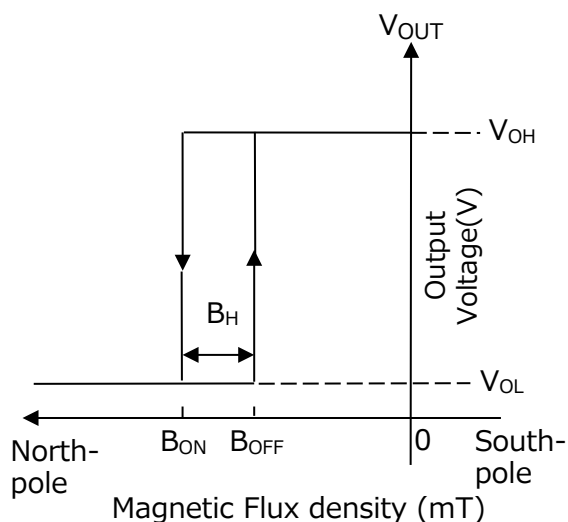

Fig.9 Magnetic operating characteristics
- ② North-pole detection type (Fig.9 shows the magnetic operating characteristics)